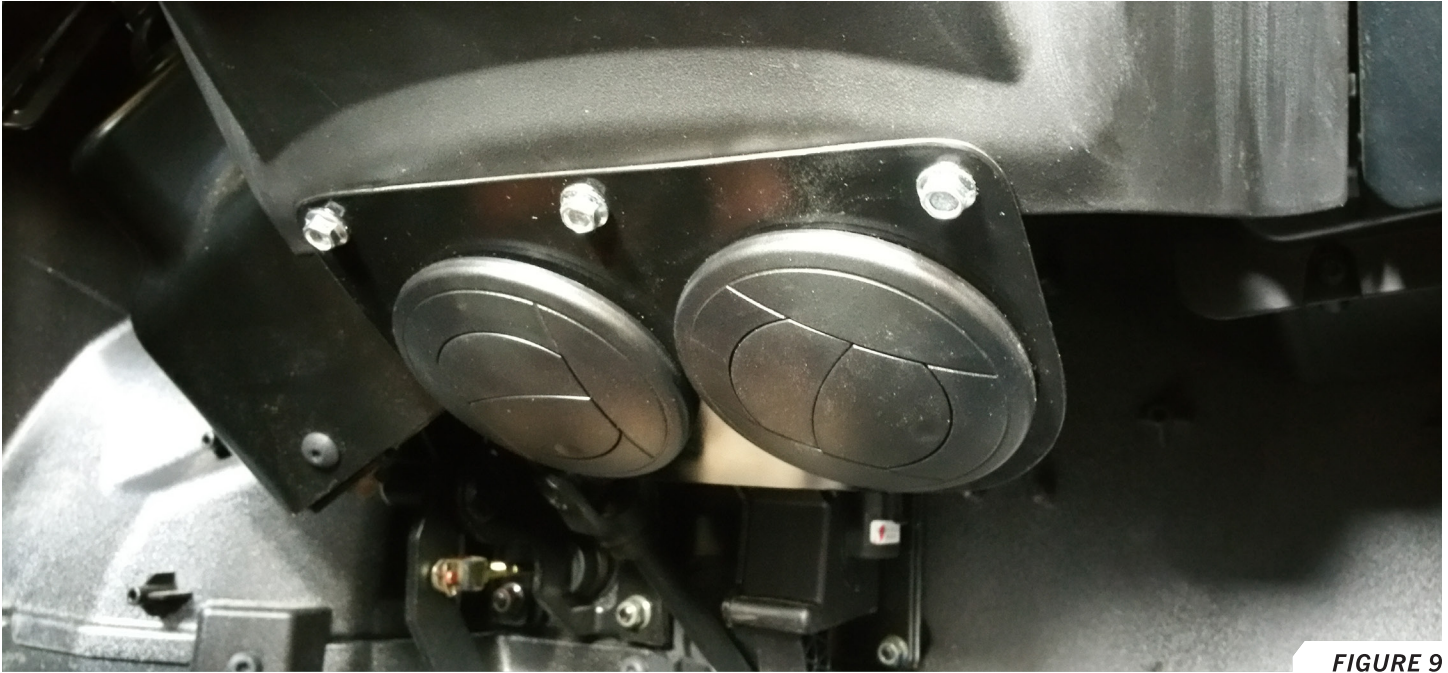

FIGURE 9
25. Snap the vents into the vent bracket. *FIGURE 9*